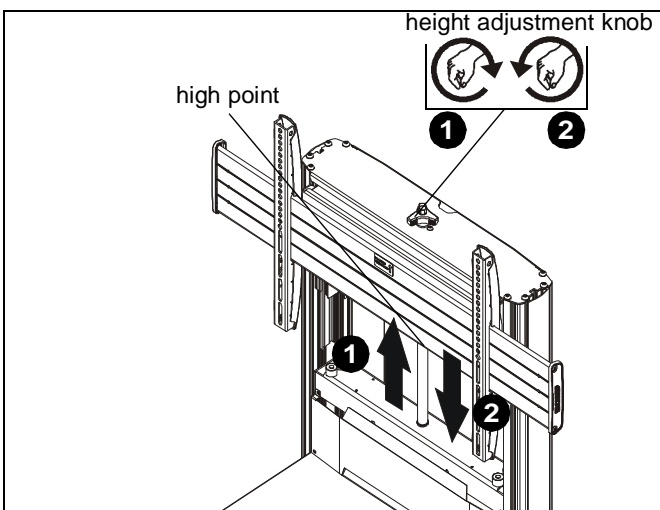
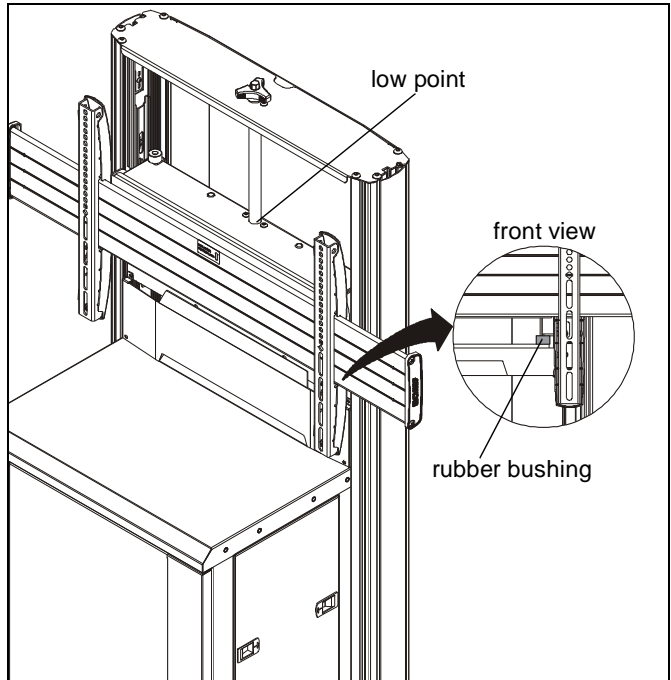

Figure 16
Figure 17
1. Turn height adjustment knob clockwise to raise display. (See Figure 16)
2. Turn height adjustment knob counterclockwise to lower display. (See Figure 16)
WARNING: Do not attempt to raise or lower the adjustment carriage beyond its upper or lower limit. (See Figure 16) and (See Figure 17) for high and low points.
NOTE: Lower tabs will rest on rubber bushings when the lowest point is reached. (See Figure 17) inset